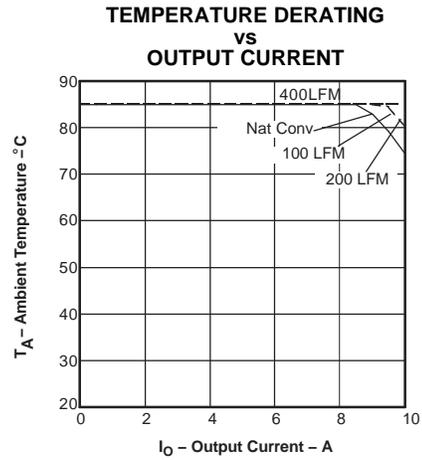

Figure 4.
- (2) SOA graphs represent the conditions at which internal components are at or below the manufacturer's maximum operating temperatures. Derating limits apply to modules soldered directly to a 4 in 14 in, double-sided PCB with 1 oz copper. For surface mount products (AS and AZ suffix), multiple vias (plated through holes) are required to add thermal paths around the power pins. Please refer to the mechanical specification for more information. Applies to Figure 4.